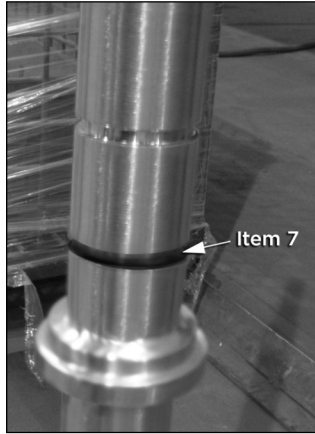

Figure 4
6. Install one of the O-rings (item 7) in the groove on the agitator shaft closer to the prop, then cover the exposed surface of the O-ring with a thin coating of food-grade lubricant, such as NEVER-SEEZ® White Food Grade or Loctite® Food Grade Anti-Seize. See Figure 4.